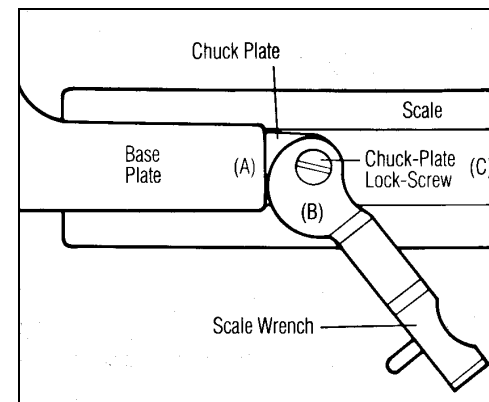

Figure 2
B. Scale Insertion and Removal (Figure 2)